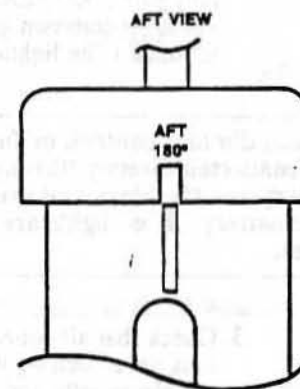

Figure 4B. Alignment of wind vane dust shield.
- B. Hold the dust shield in place. Then, if the staff will be installed pointing aft as recommended, mount the vane on top of the dust shield pointing over the staff (see Figure 4B). If the staff will point to the bow, the vane must point to the bow.